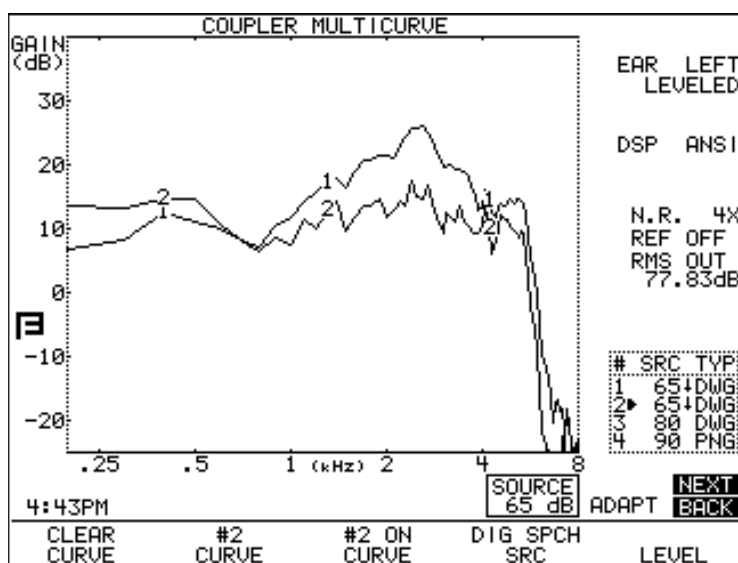

Figure 3.8.2D—Comparison of the directional response of the hearing aid at 0°(CURVE 1) and 180°(CURVE 2)
20. Compare CURVE 1 and CURVE 2. See Figure 3.8.2D. If the hearing aid's response didn't change when you rotated the aid in Step 15, it is a good indication that the aid's directional microphones are not working properly.